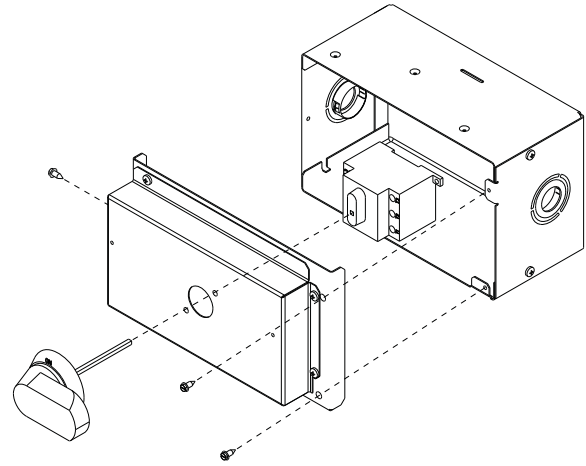

Fig. 46 — Handle and Shaft Assembly for NFD (Sizes 08-14)
1. Remove the unit front panel (see Fig. 46 and 47).
2. Remove (3) hex screws on the NFD enclosure - (2) on the face of the cover and (1) on the left side cover.
10. Secure the handle to the painted cover with (2) screws and lock washers supplied.
11. Engaging the shaft into the handle socket, re-install (3) hex screws on the NFD enclosure.